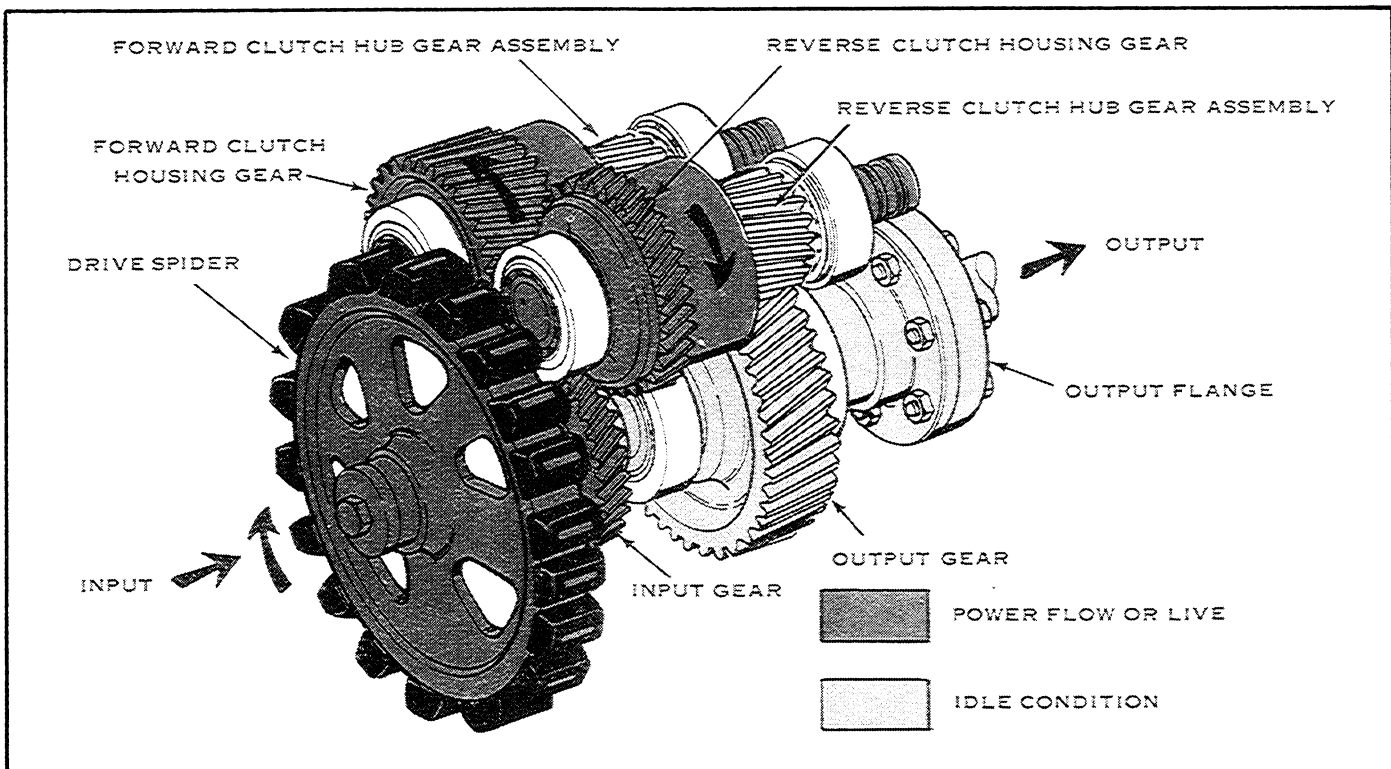

Figure 3-1. MG-506-1 Marine Transmission Power Flow — Neutral — Schematic View.
1. **Neutral.** See Figure 3-1. When in neutral, all parts that rotate in the marine transmission while in this position, turn at engine speed. The connecting member between the engine and the marine transmission is the driving ring that is bolted to the engine flywheel. The rubber blocks that are installed on the drive spider are meshed in the driving ring. The drive spider is keyed to the input shaft. The input gear is keyed to the input shaft. Therefore, the input gear turns at engine speed and in engine direction. The input gear is in constant mesh with the forward clutch housing gear, and turns the gear, the clutch shaft, and the sintered metal clutch plates at engine speed and in anti-engine direction. The forward clutch housing gear is in constant mesh with the reverse clutch housing gear, and the gear, the clutch shaft, and the sintered metal clutch plates rotate at engine speed and in engine direction. The oil pump assembly which is connected to the end of the reverse clutch shaft, also rotates at engine speed and in engine direction. Since neither forward nor reverse clutch is engaged, there is no further power flow within the gear.